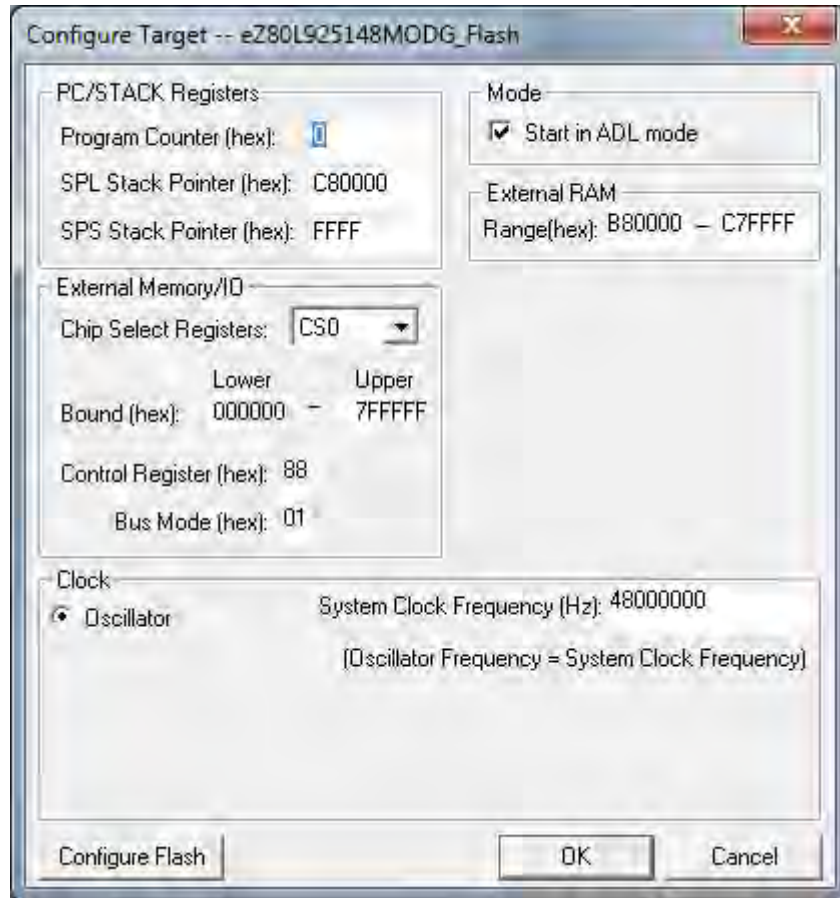

Figure 4. The Configure Target Dialog for the Flash/Copy to RAM Build
3. Click the **Setup** button. The Configure target dialog will appear, as shown in Figure 4, which presents the default settings for the eZ80L925148MODG_Flash ZTGT file. If you have not modified the contents of the eZ80L925148MODG_Flash.ztgt file, then you should see the values in Figure 4 after clicking the Setup button. Verify that your settings match the values shown in this figure.